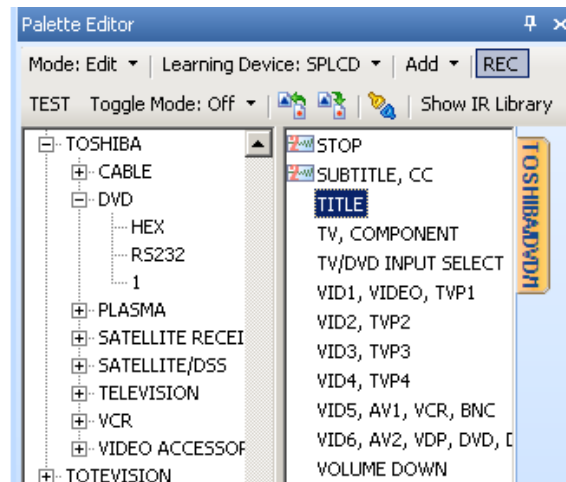

Figure 29 – Learning IR Commands
5. Scroll the **Brand List** and click the '+' next to the appropriate **Brand** as shown in **Figure 29** (Toshiba). A sub-directory of components will appear. (If a particular **Brand** does not appear on the **List**, see Section: **Editing Brand, Component and Function Lists/Adding Brands**.)